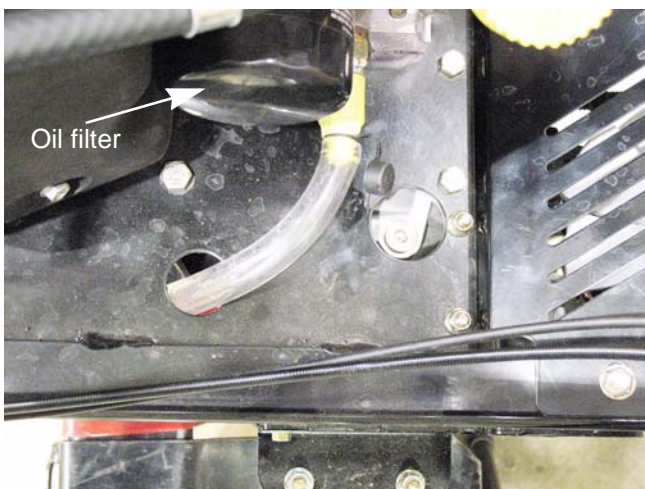

Figure 9.9
3. Remove the oil filter by turning it counter-clockwise, as seen from the right side of the mower. See Figure 9.9.